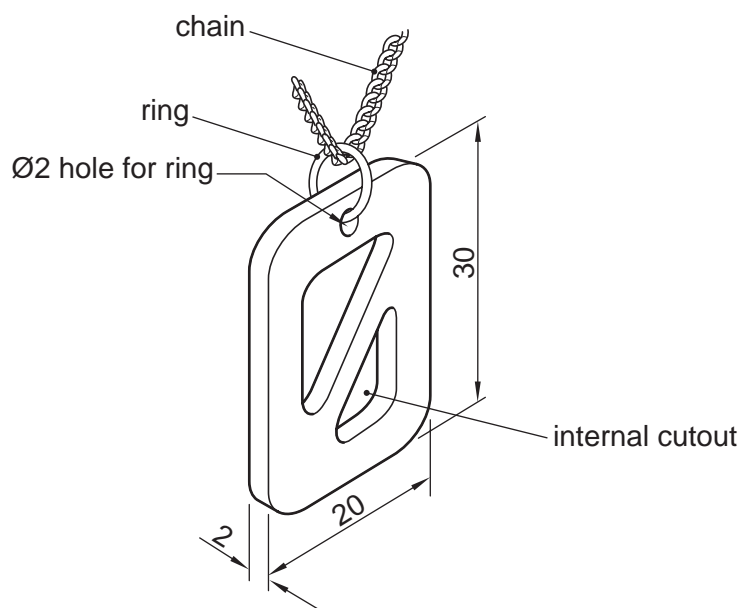

Fig. 2
- 2 Fig. 2 shows a design for a pendant to hang on a chain as a necklace. (Drawn larger than full size.)